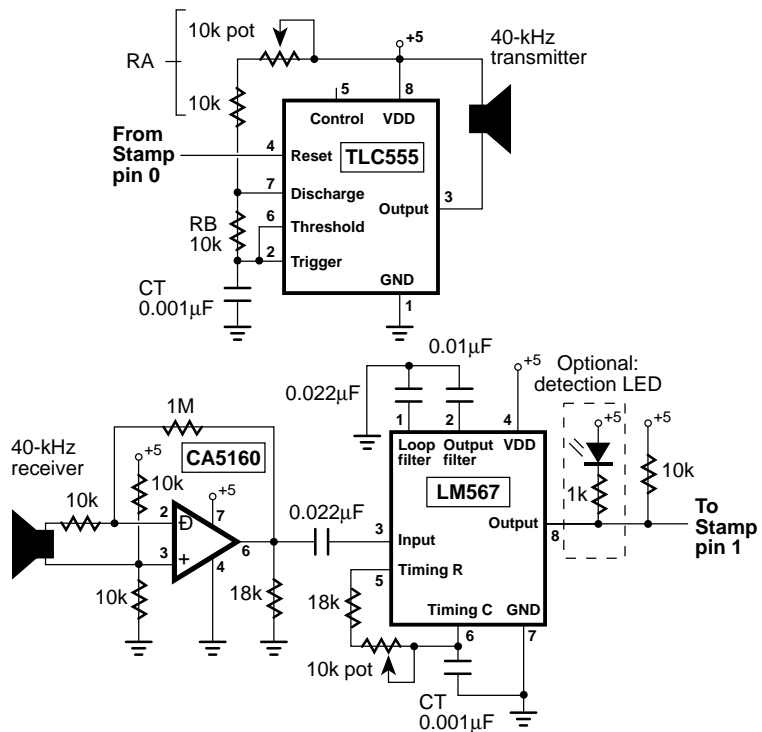

Figure 1. Schematic to accompany program SONAR.BAS.
Polaroid sensor (35-foot range, multi-frequency chirps to avoid false returns, digitally controlled gain) you can build your own experimental sonar unit for less than \$10. Figure 1 shows how.
**How it works.** In figure 1, the TLC555 timer is connected as an oscillator; officially an *astable multivibrator*. When its reset pin is high, the circuit sends a 40-kHz signal to the ultrasonic transmitter, which is really just a specialized sort of speaker. When reset is low, the '555 is silenced.